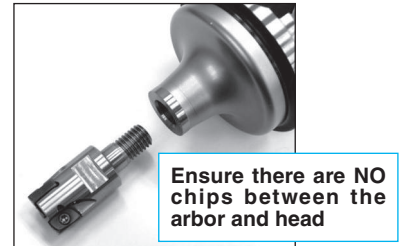

Fig. 1
- (1) When clamping the head on the arbor, make sure there is no dust or chips inside (Fig. 1).
- (1) Apply anti-seize compound on portion of taper and thread of clamp screw.
- (2) Attach the screw (magnetic head) to the front end of the wrench. While lightly pressing the insert against the constraint surfaces, put the screw into the hole of the insert and tighten. (Ref. to Fig. 1)